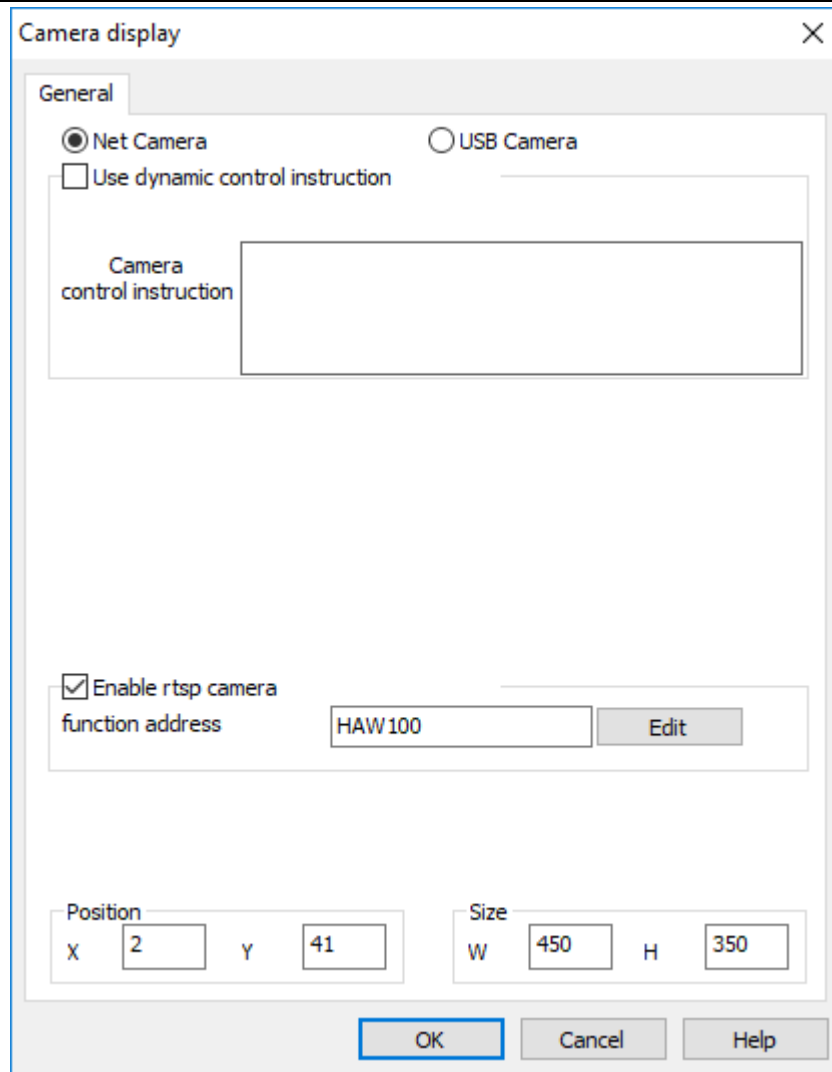

Figure 3-2
- 2) Select the Net Camera and check the rtsp option as Figure 3-2 shows;